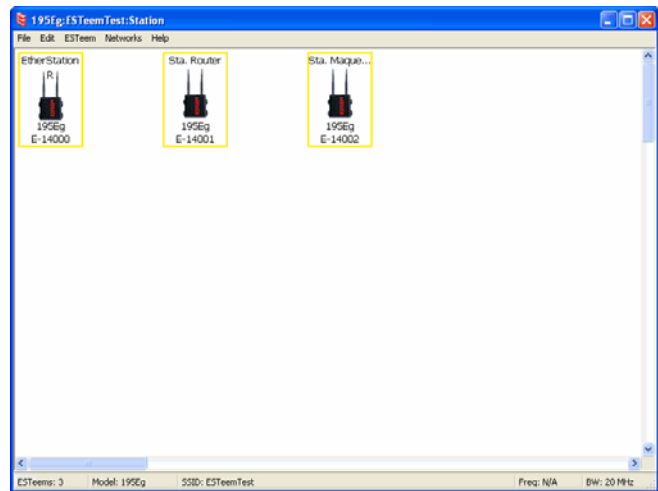

Figure 24: Station Mode Example Modems
2. Add the three mobile client modems to the ENC Utility configuration page as instructed above and set the Modem ID to match the three modes of operation. Your configuration will appear as in Figure 24.
Technical Tip: The ESTeem 195C/M’s in Mobile Client modes do not have a specific frequency of operation as can be seen in Figure 24.